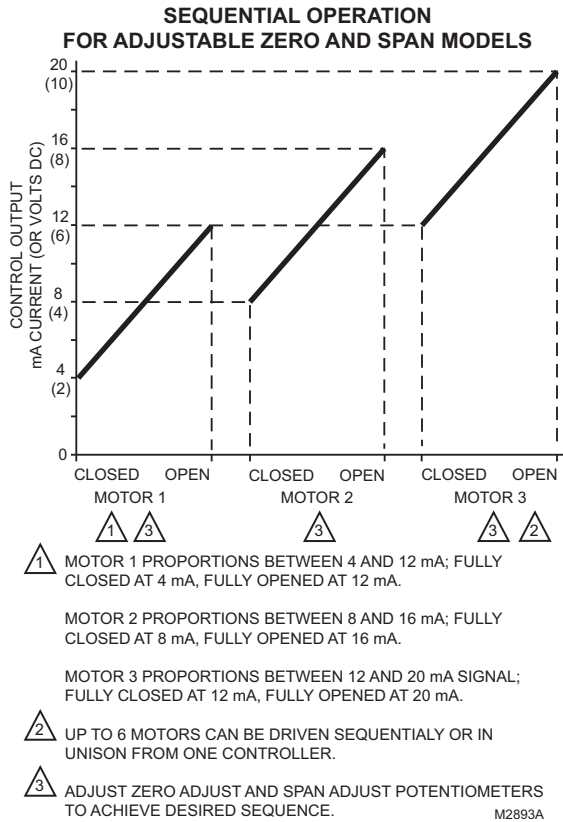

Fig. 5. Sequential operation of three motors with Q7230A Interface Module.
12. For sequential operation at two or more motors (as shown in Fig. 5), repeat the above steps for each motor, individually adjusting each for the desired response to the input signal.